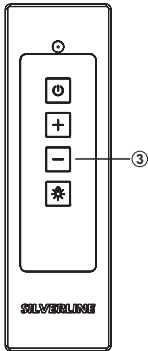

Fig. 17
2. ➔ Press the (-) button on the remote controller to decrease the revolution of the device (Fig. 17).